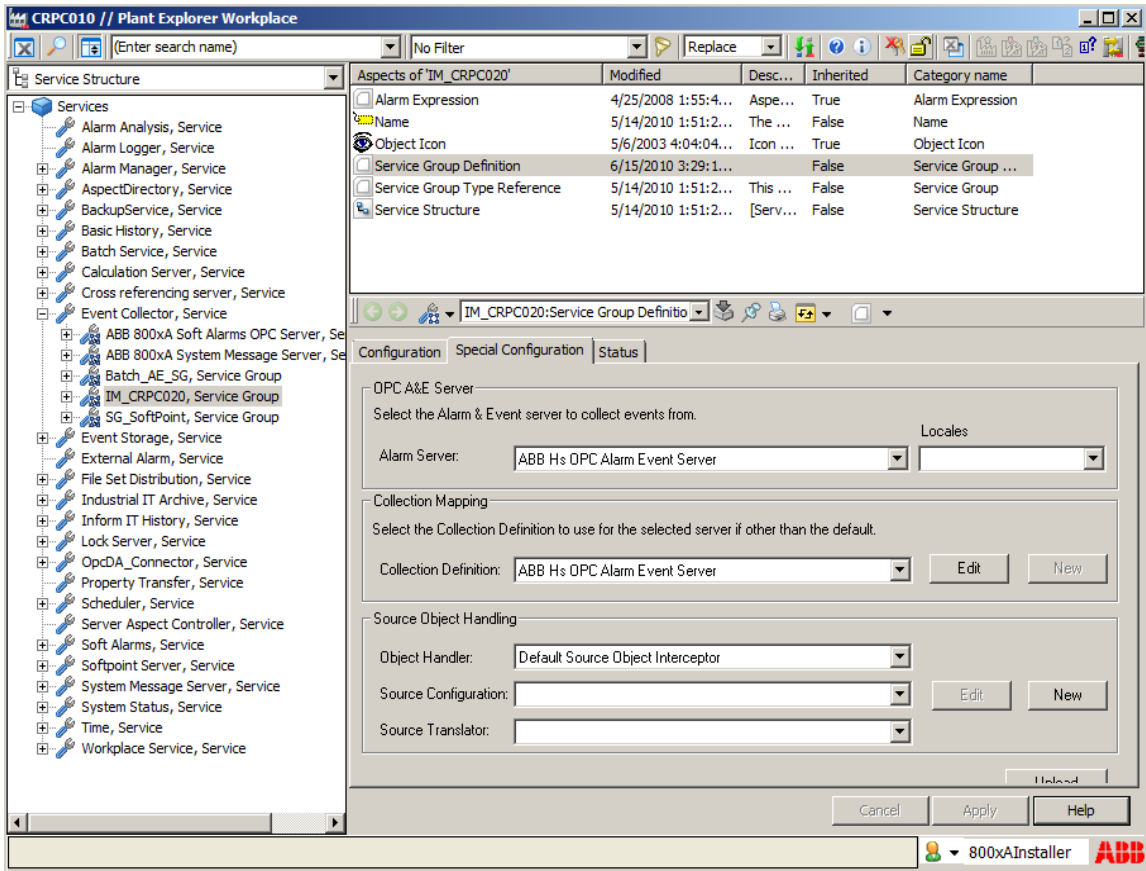

Figure 362. Checking for OPC Alarm Server
To check (reference Figure 362):
This example shows how to check for the OPC alarm server for history. The OPC alarm server for SoftPoints will reside in a different Service Group (for example, tar101SoftPoint Service Group in Figure 362).
1. Go to the Service structure in the Plant Explorer, find the **Event Collector, Service**, and then select the Service Group for a node where History Services runs (for example, Figure 362).